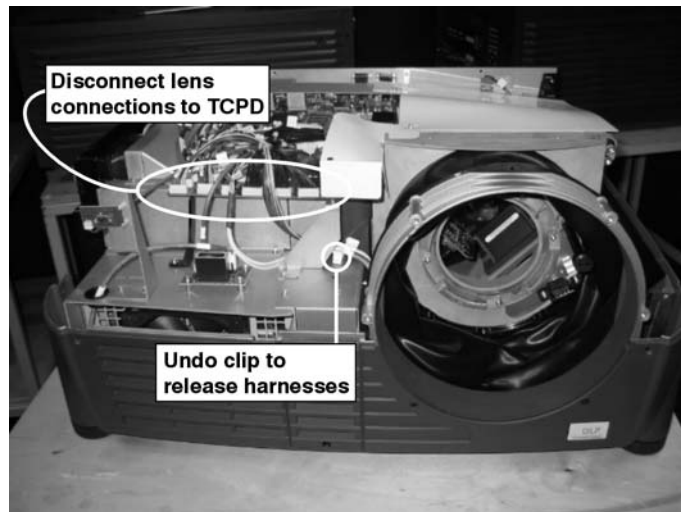

Figure 53. Disconnect Lens Cables from TCPD
(Figure 53.)
5. Undo the cable clip used to cleanly route harnesses to the TCPD/HDPD from the angled bracket next to the lens mount. (Figure 53.)
7. Disconnect all the lens cable connections from the front edge of the TCPD/HDPD (Figure 53.) Unclip them from the wire clip so they are free to remove when the optical assembly is removed in the next step.